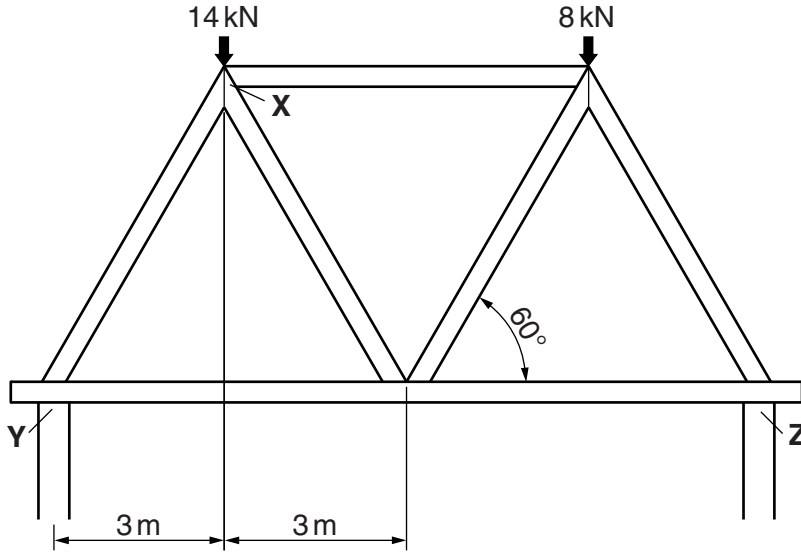

Fig. 5
- (ii) Fig. 5 shows a roof truss resting on two walls.